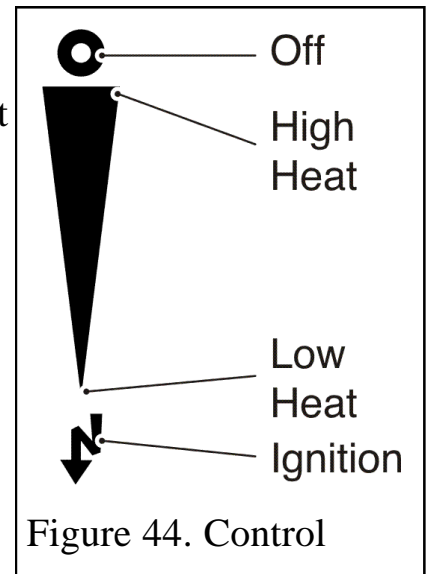

Figure 44. Control
The control position markings on the fascia are shown in figure 44.
5. Gradually slide the button up to increase the burner setting. The burner should be at its maximum setting at the high heat position shown in figure 44. You should feel a check to the button movement at this position.